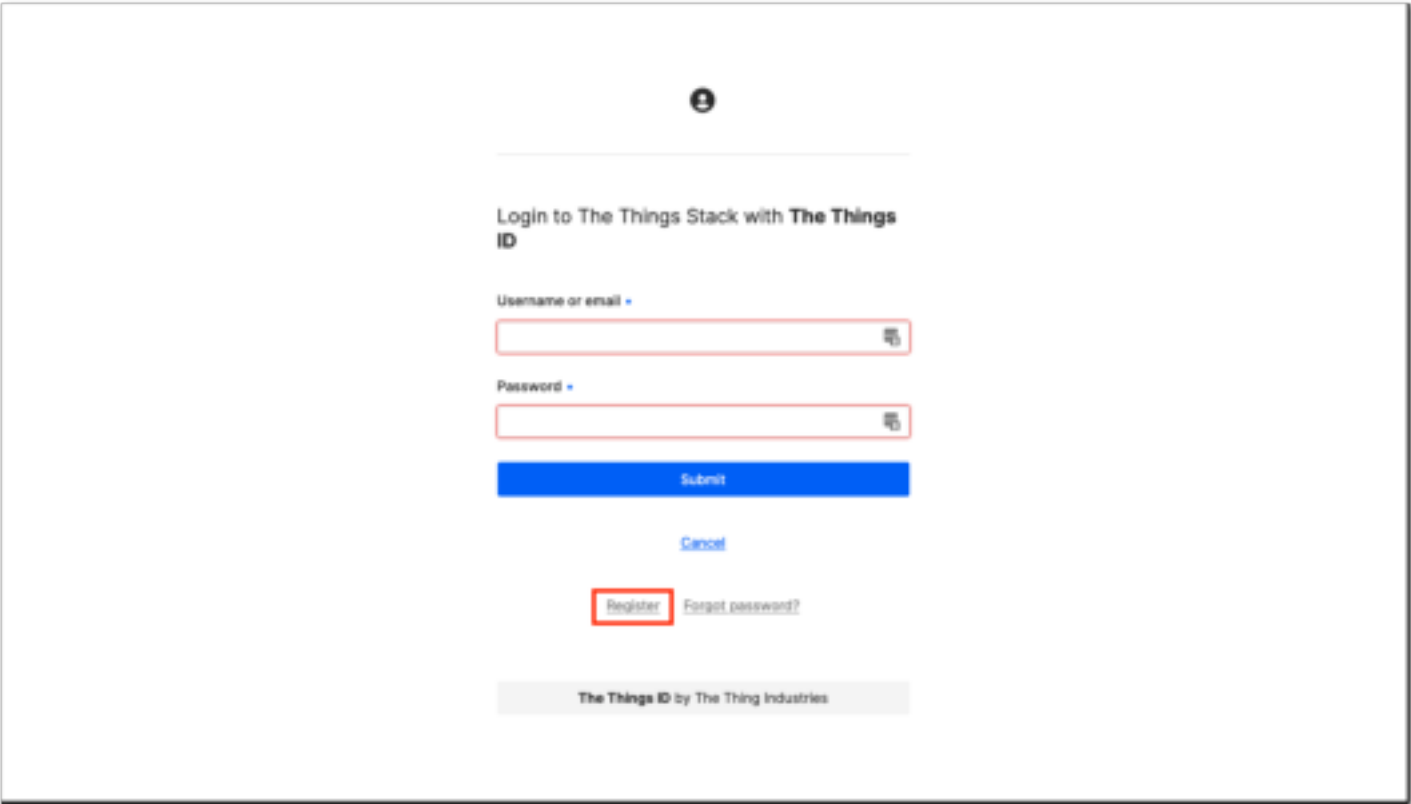

Figure 39: Registration of new account
1. Go to your application console to be able to register a device. To start adding an OTAA end-device, click **+ Add end device**, as shown in **Figure 39**.